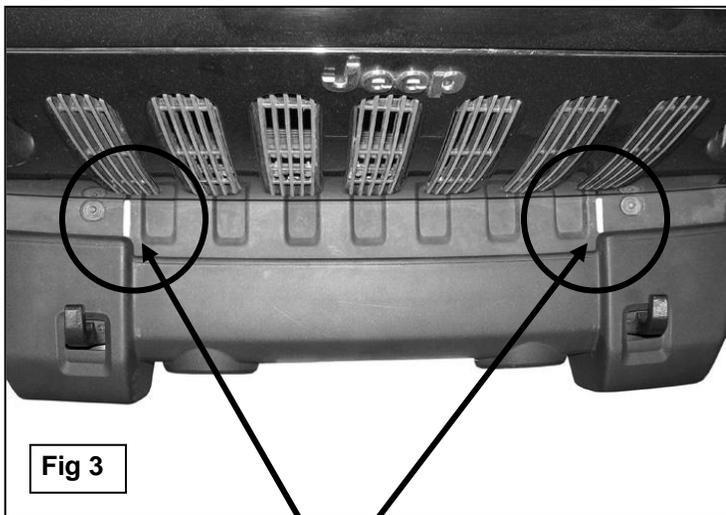

Fig 3
5. Next, place the top fill plate back in position and mark a slot on the underside straight up from the frame upright, (the top brackets mount to the side of the frame upright-see **Figure 5**). Cut (2) slots to clear the Top Brackets, **(Figure 3)**. **NOTE:** Only cut a slot long enough to clear the Top Mounting Brackets. **IMPORTANT!** Do not cut completely through either end of the fill panel. Reinstall the fill panel with the factory hardware.